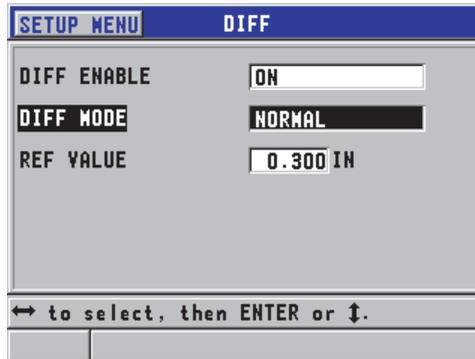

Figure 7-2 The DIFF screen
2. In the **DIFF** screen (see Figure 7-2 on page 125):